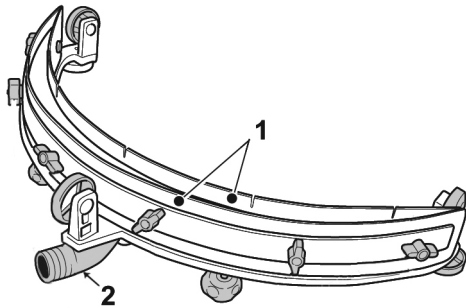

Fig 21
- Wash the squeegee unit, and specifically the rubber blades (1) and the inside of the vacuum hose connector (2). (Fig 21)